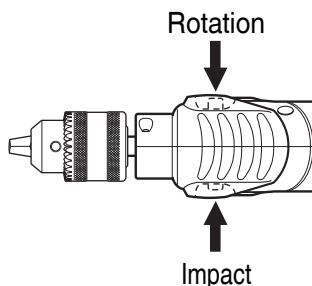

Fig. 3
9. IMPACT to ROTATION changeover (Fig. 3)